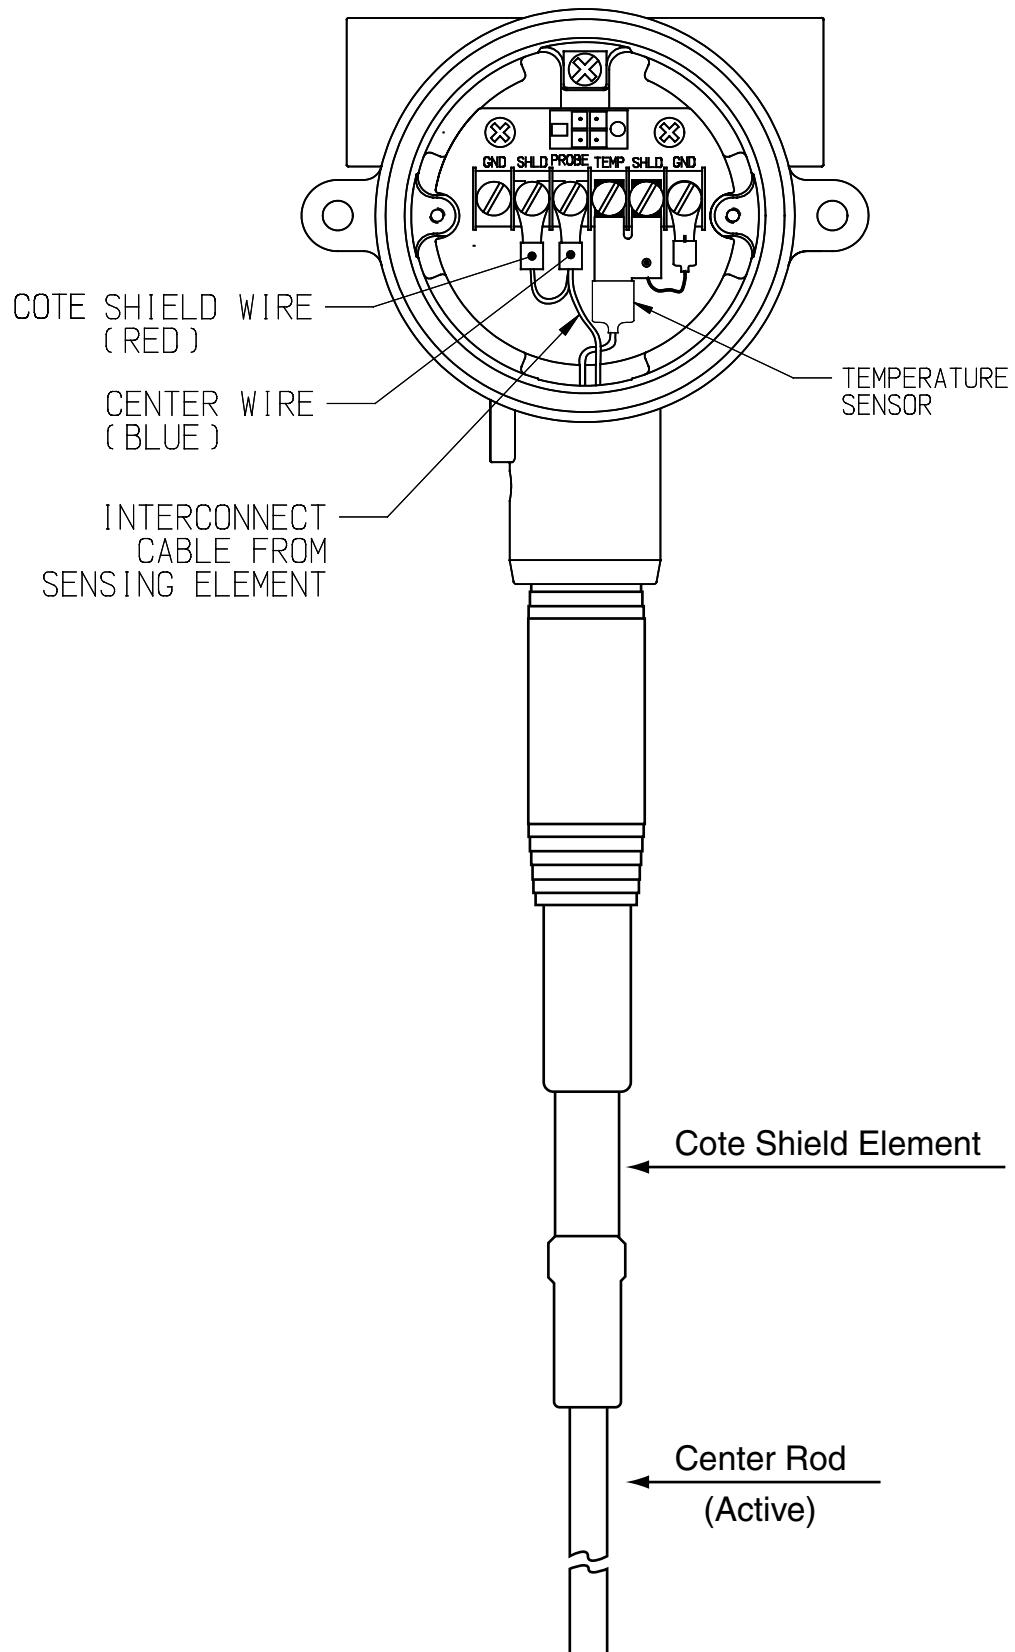

Figure 7-3
2. If temperature is incorrect remove temperature sensor connections in the housing. Refer to "Figure 7-3" on page 41.
2. Disconnect sensing element interconnect cable in the housing, red and blue wires. Reference "Figure 7-3" on page 41.